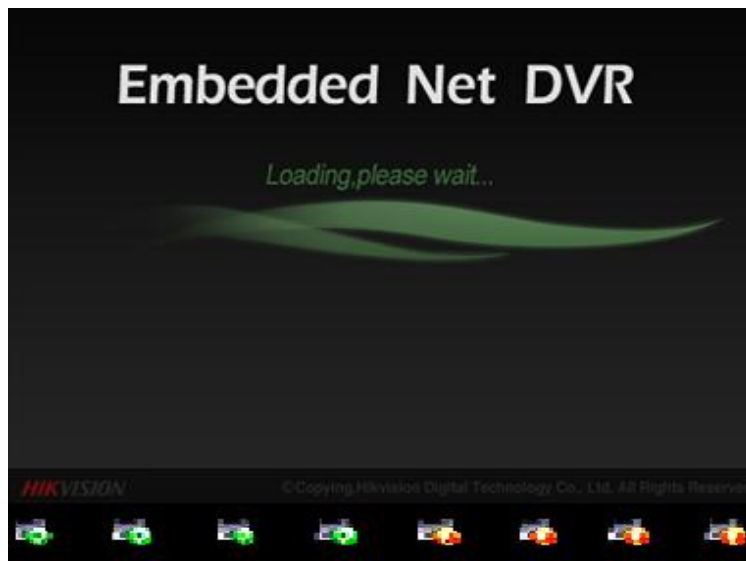

Figure 15 Startup Splash Screen
- After startup, the Power indicator LED will remain blue. A launch screen with the status of the HDD will be shown (Figure 15). If an 'X' is shown, it means that the HDD is not installed or cannot be detected.